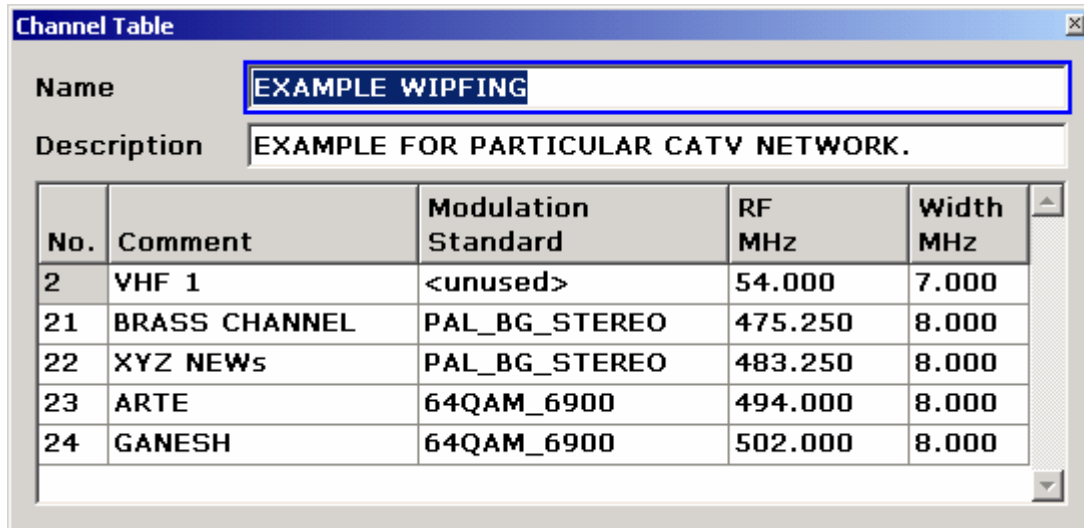

Fig. 2–45 The channel table and its properties
- Channel tables (see Fig. 2–45) have a **Name**. The name should comprise geographical information, e.g. "SOUTHAMPTON" or "EXAMPLE\_WIPFING".